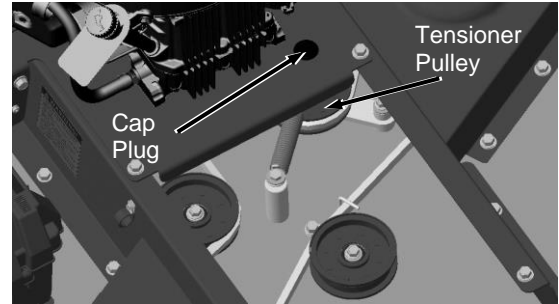

Figure 55
6. Remove Service Cap Plug from motor mount plate by popping it out from the underside (**Figure 55**).